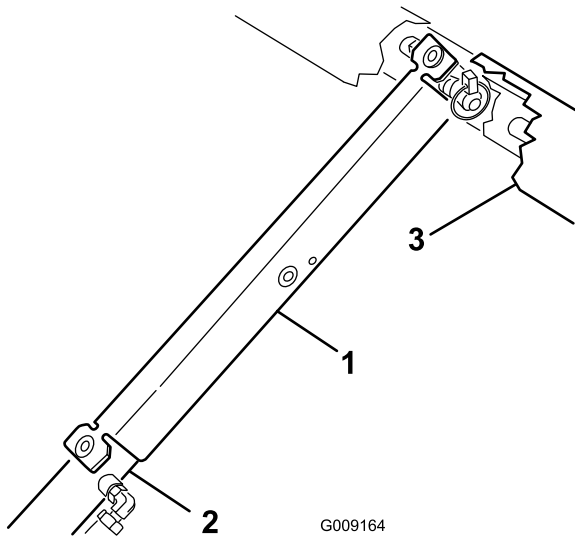

Figure 19
3. Push the bed support onto the cylinder rod, and ensure that the support-end tabs rest on the end of the cylinder barrel and cylinder-rod end (Figure 19).